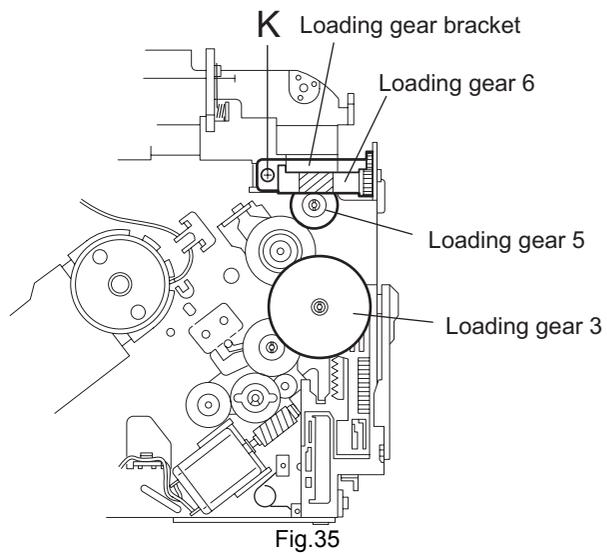
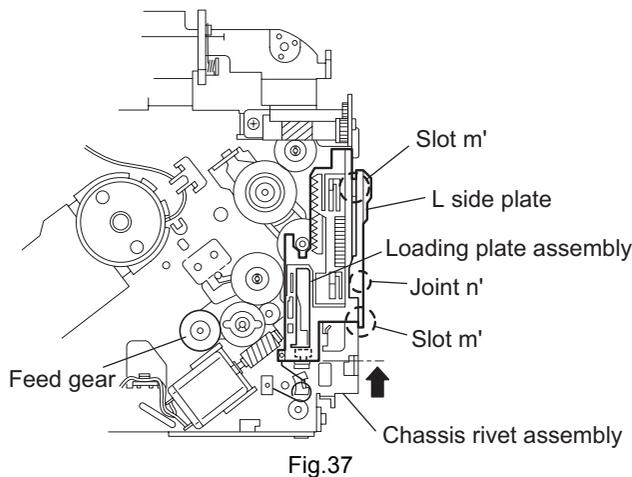
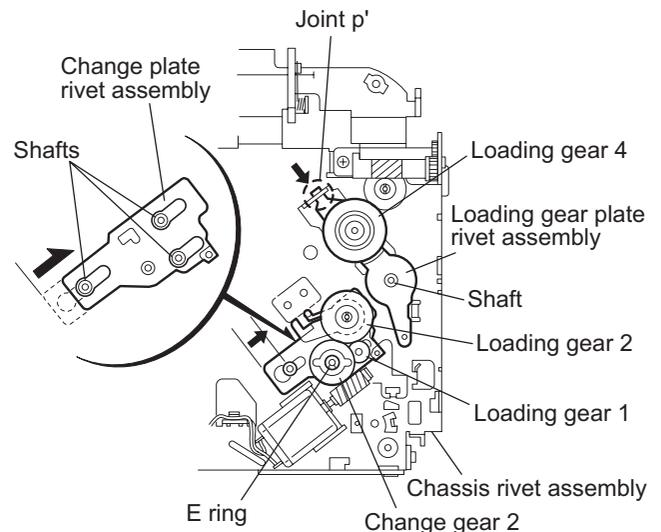

Fig.35
Fig.37
Fig.38
**(See Figs.35 and 36)**
- (1) Remove the screw **K** attaching the loading gear bracket.
(See Figs.37 to 40)
- Pull out the loading gear 3. (See Fig.35.)
- (1) Pull out the feed gear.
- (2) Move the loading plate assembly in the direction of the arrow to release the L side plate from the two slots m' of the chassis rivet assembly. (See Fig.37.)
- (3) Detach the loading plate assembly upward from the chassis rivet assembly while releasing the joint n'. Remove the slide hook and loading plate spring from the loading plate assembly.
- (4) Pull out the loading gear 2 and remove the change lock lever.
- (5) Remove the E ring and washer attaching the changer gear 2.
- (6) The changer gear 2, change gear spring and adjusting washer come off.
- (7) Remove the loading gear 1.
- (8) Move the change plate rivet assembly in the direction of the arrow to release from the three shafts of the chassis rivet assembly upward. (See Fig.38.)
- (9) Detach the loading gear plate rivet assembly from the shaft of the chassis rivet assembly upward while releasing the joint p'. (See Figs.38 and 40.)
- (10) Pull out the loading gear 4.